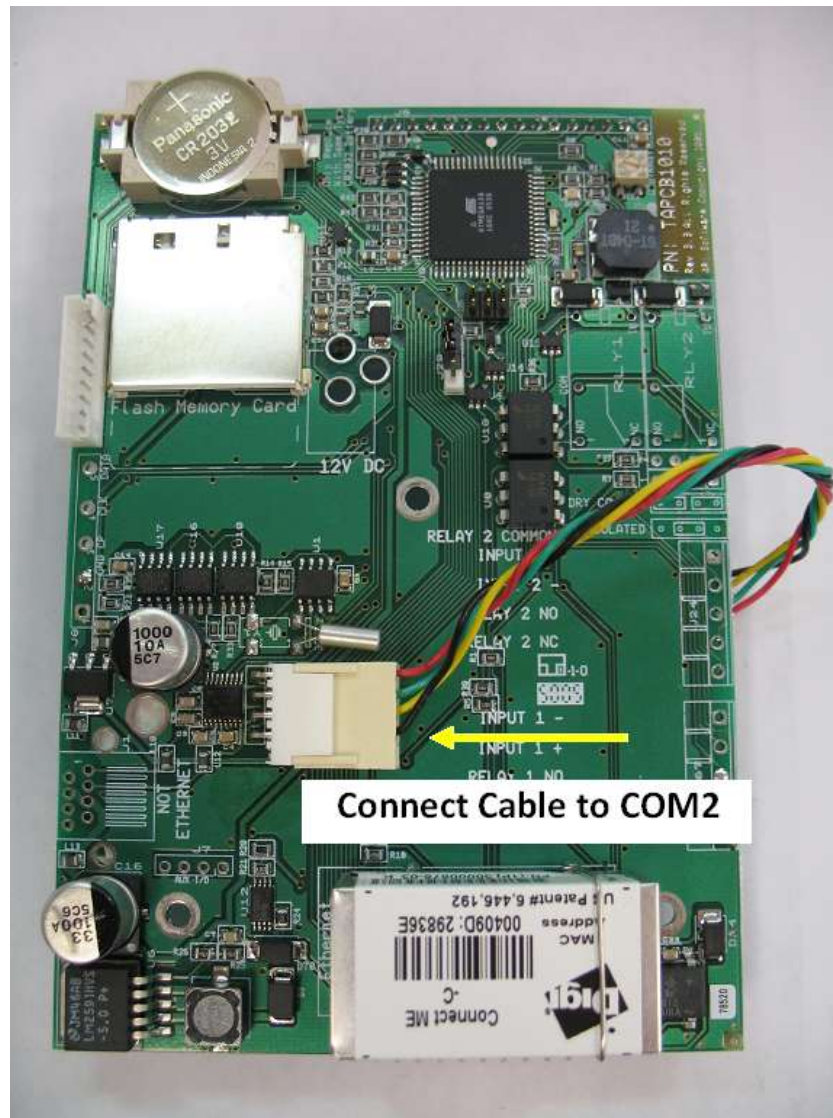

Figure 3.
8. Connect the cable from the iCLASS RFID module to the COM2 connector as shown in Figure 3.